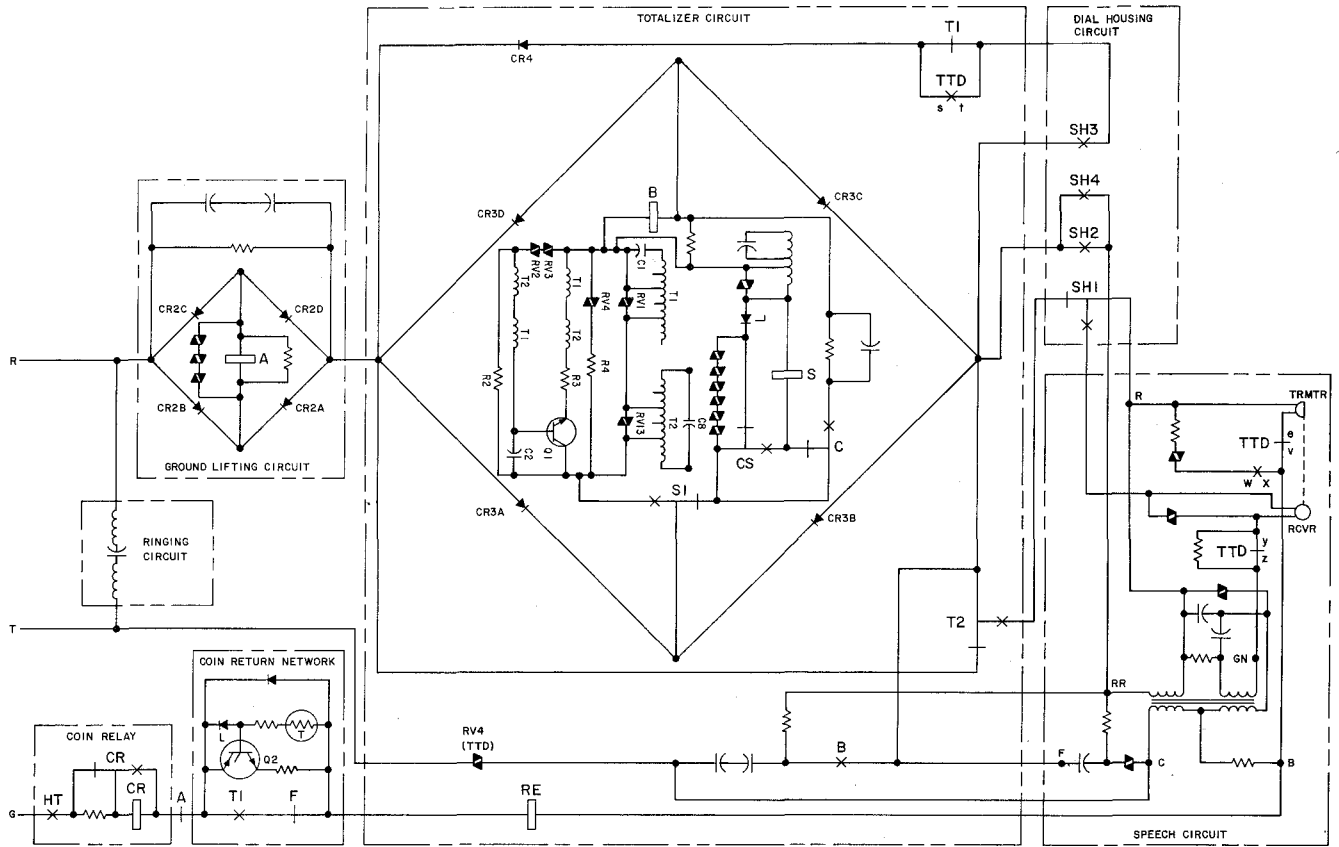

Fig. 10—1C2/2C2 Coin Telephone Set—Schematic (DTF Mode)
**Note:** This procedure and Fig. 10 refer to a 35-type TOUCH-TONE dial. A 70-type dial is similar.